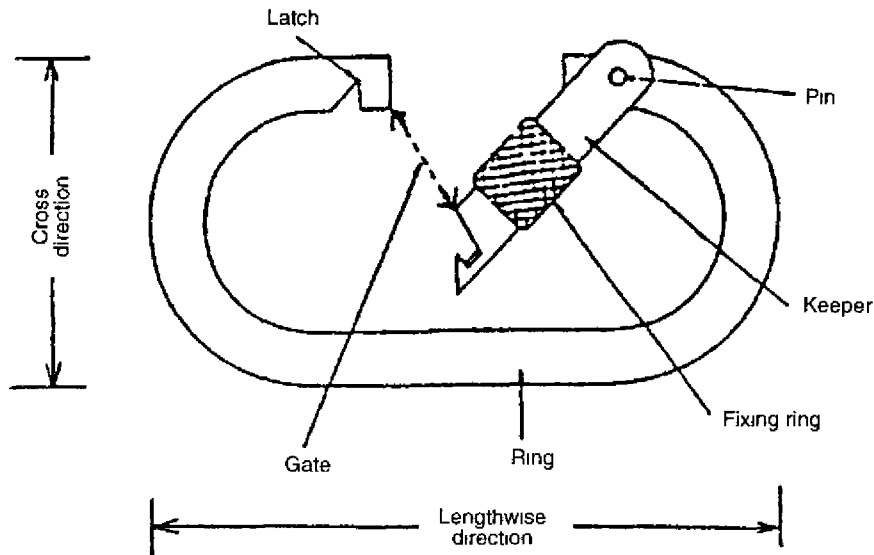

Fig. 3-71
(3) **Names of Parts (Fig. 3-71)**